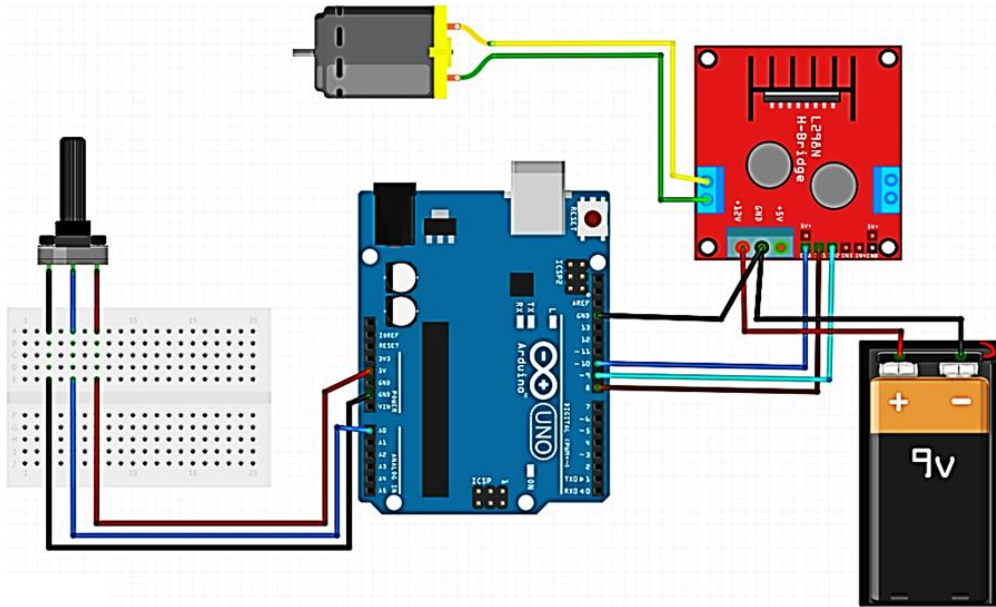

Figure 7: An Arduino microcontroller is controlling a DC motor's speed through a dual H-bridge.
1. Connect the circuit diagram as per Fig. 7. Connect the motor, driver, potentiometer, DC power supply, and push switch.